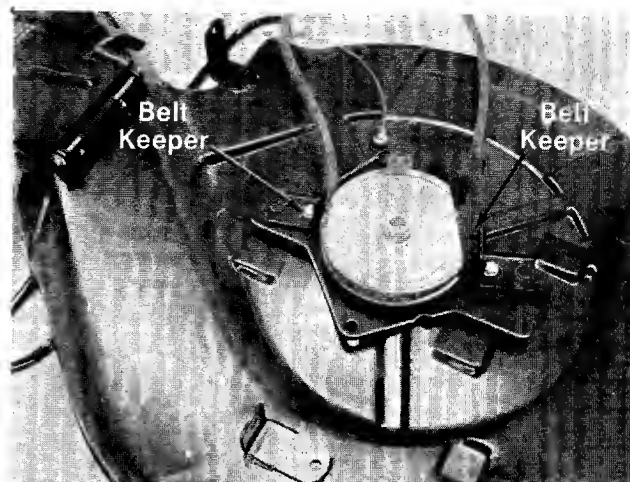

FIGURE 27.
10. Remove the two belt keepers on the deck. See figure 27.